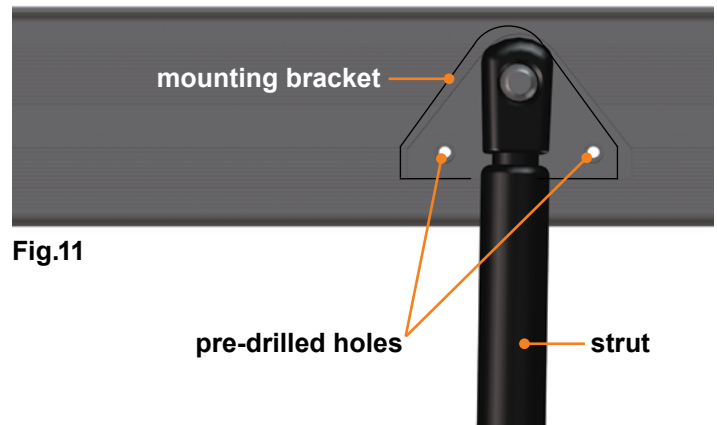

Fig.11
2. Secure the strut's bracket (**Fig.11**) to the unit's framing with two #8 screws through the two pre-drilled holes.